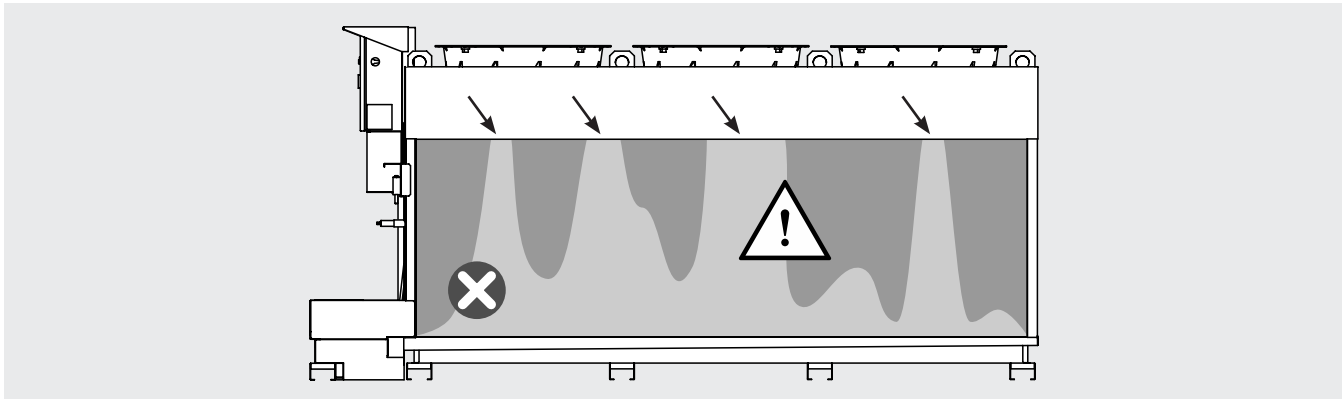

Figure 17
- 11.8 With the adiabatic system in operation, check that there is adequate water distribution on the panels: uniform darker colouring on at least 80% of the panel surface is acceptable. Please refer to point 12.32. See Figure 17 as an example of unacceptable colouring.
- 12.12.1 Carry out a visual inspection of the adiabatic water distribution system on the panels. An uneven distribution of water on the outer panel (uneven colouring of the panel, see Figure 17) can be attributed to a blockage of one or more quick-connect nozzles. An abnormal flow of water during operation of the adiabatic system can be attributed to one or more damaged nozzles. If necessary, replace them as follows.